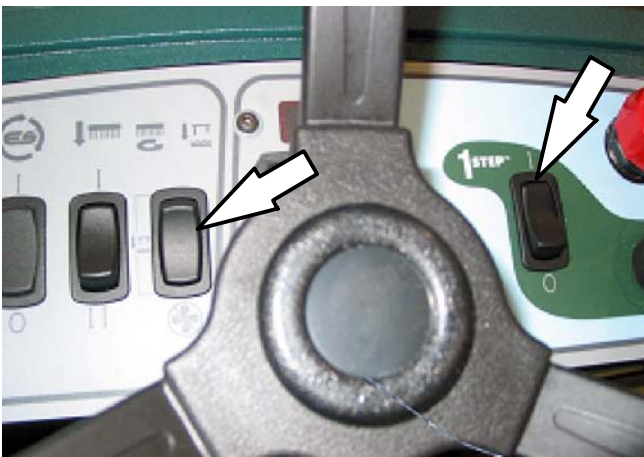

FIG. 5
5. Put the vacuum fan/squeegee switch into the **vacuum off** position. Put the one-step (scrub) switch into the **on** position. (Fig. 5)